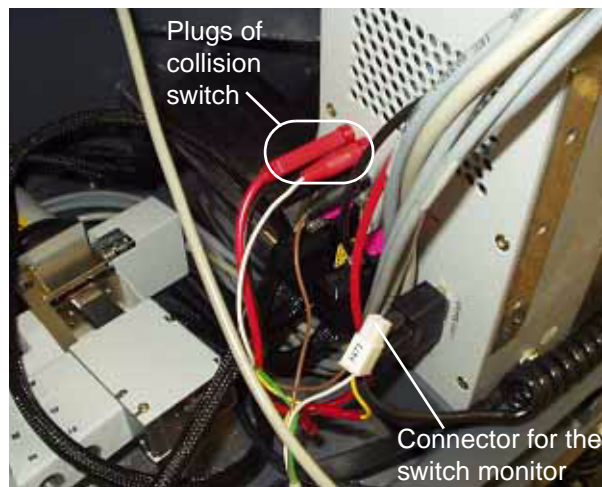

Figure 5.11 - Cabling of the collision switch
10. Mount the collision switch to the detector mount. Place the color-coded banana plugs into the sockets on the goniometer side panel labeled "Collision switch." Do not switch the colored plugs and sockets (see Figure 5.11).